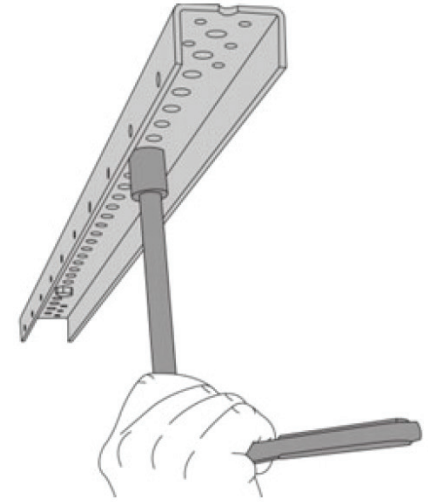

fig 2.3
13. Use a ratchet with a 1/2 inch socket to attach the Smart Track to the ceiling using one of the included lag bolts and washers. (fig 2.3) **NOTE: If the lag bolt turns freely, your pilot hole is likely not hitting the ceiling joist. If this is the case, find the center of the stud and drill a new pilot hole.**